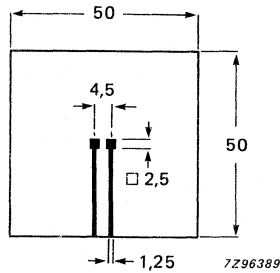

Fig. 2 Mounted on a printed-circuit board.
2. Thermal resistance from junction to ambient when mounted on a 1,5 mm thick epoxy-glass printed-circuit board; Cu-thickness $\geq 40\text{ }\mu\text{m}$ (see Fig. 2)